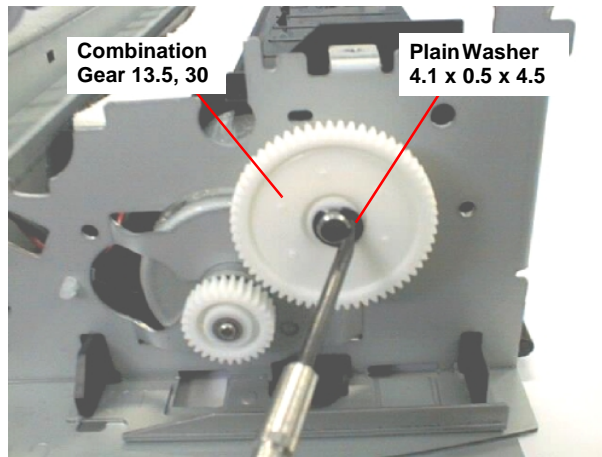

Figure 4-66. Removing the Flat Washer & Gear 13.5,30
- 5) Remove the Plain Washer (4.1x0.5x4.5) from the Combination Gear 13.5,30 and then remove the Combination Gear 13.5,30 carefully. Refer to Figure 4-66.